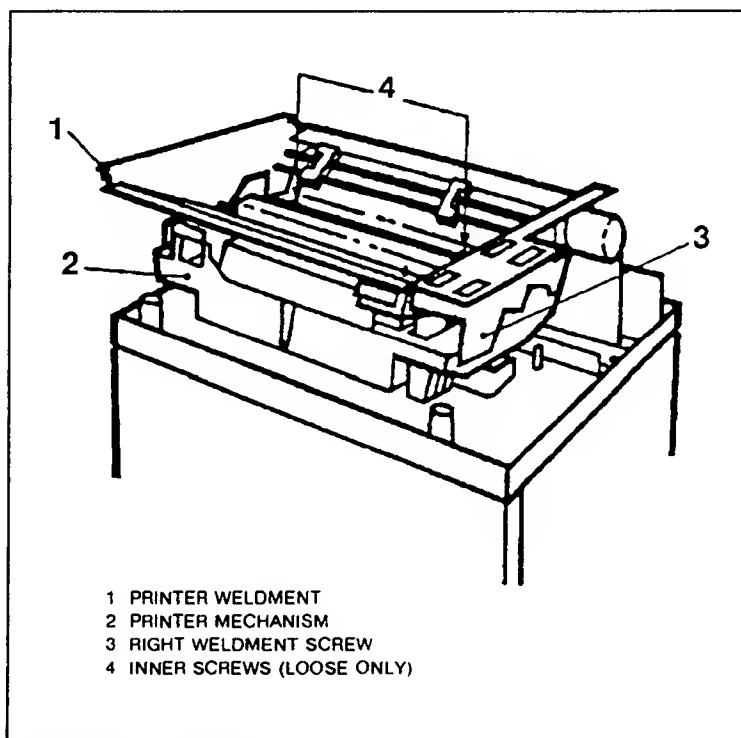

Figure 6-13. Printer Weldment
The printer weldment is the metal frame which holds the ribbon cartridge, ribbon motor, and the paper feed tractors. Removal of the weldment provides access to the print mechanism and the printbar (see Figure 6-13).
- d. Loosen the two pozidrive screws located inside the printer weldment, below the paper feed tractors (see Figure 6-13, items 4 & 5). (These screws do not need to be removed, just loosened.)